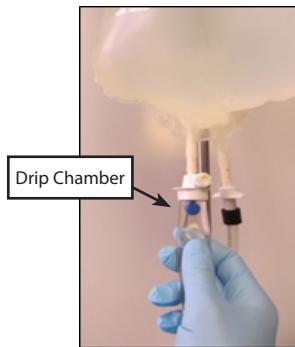

Figure 28
- De-air the drip chamber (Fig. 28) at the end of the Infusion Tube by squeezing the drip chamber (pushing the air out) and releasing it (allowing the saline to pass into the drip chamber). Repeat until the drip chamber is completely full of saline (free from air) and the blue ball is at the top of the chamber.